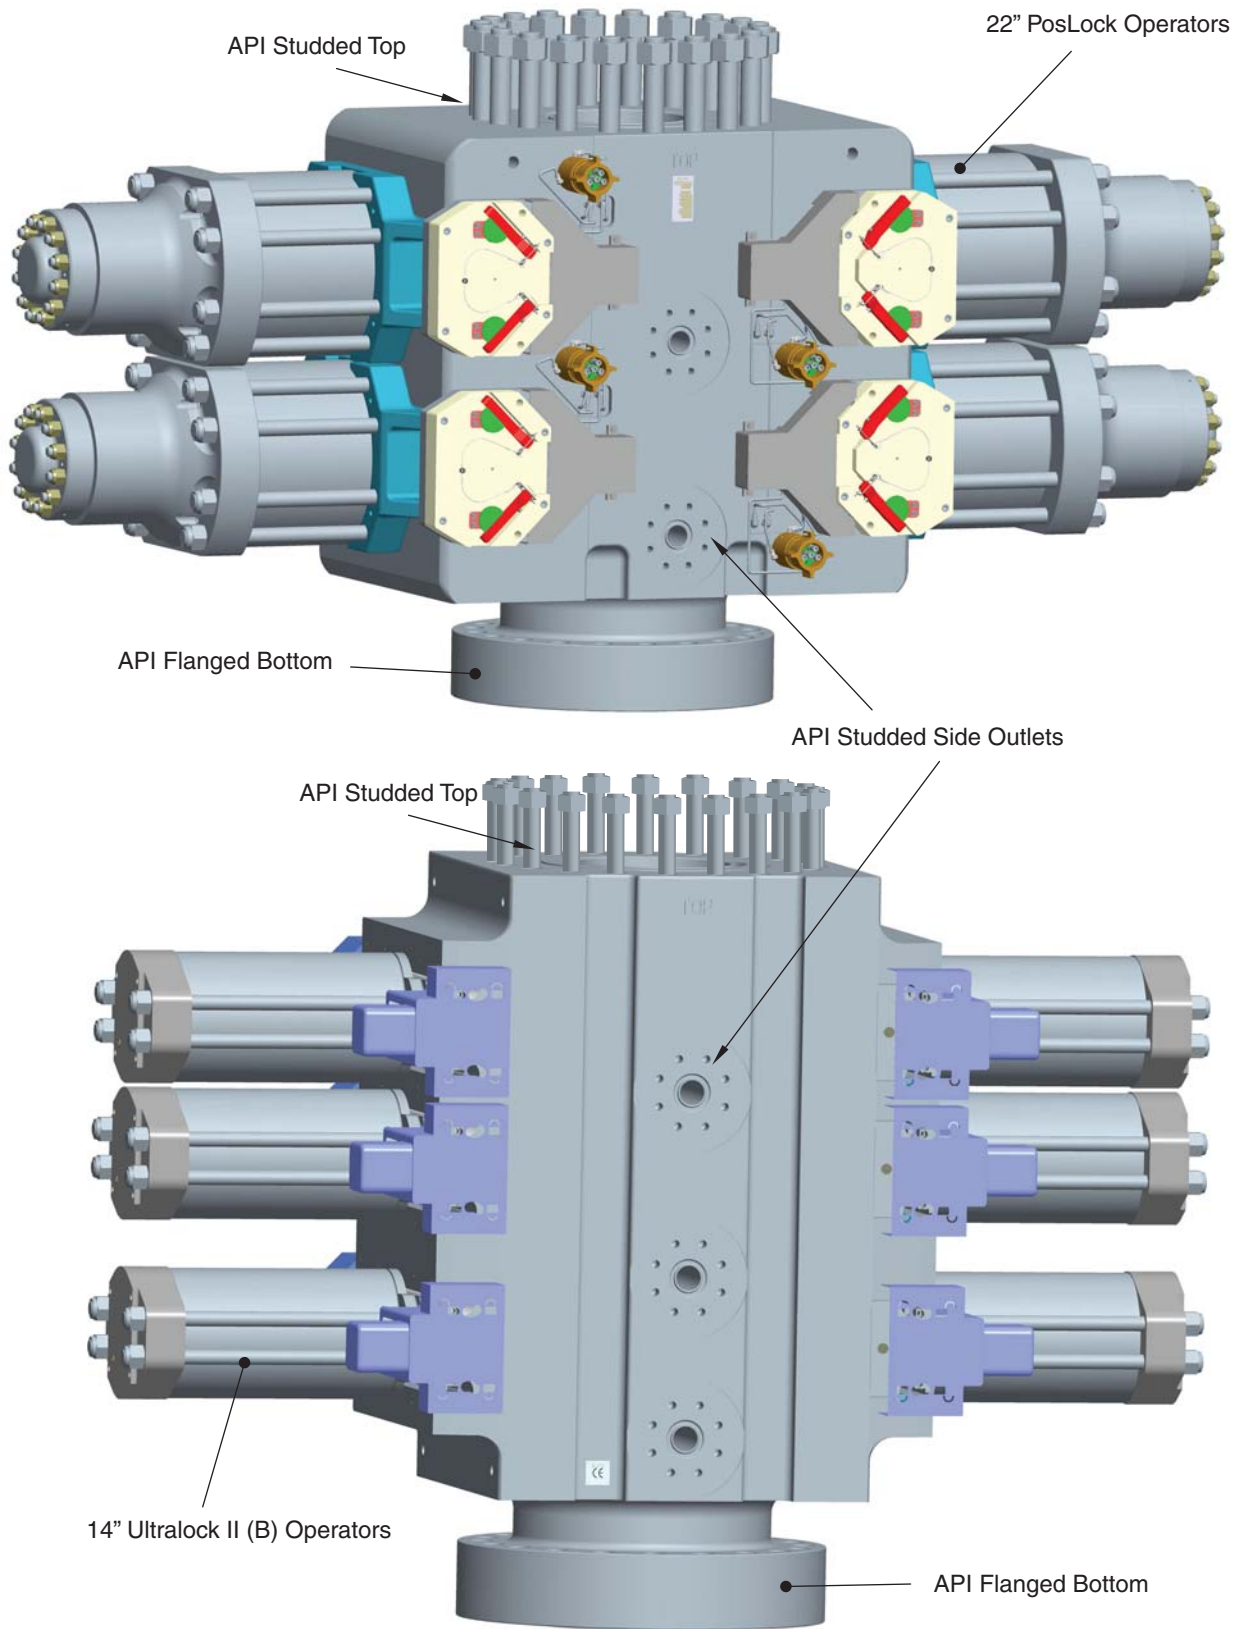

Figure 2-1. 18^{3/4}-15M NXT Double with 22" PosLock Operators and 18^{3/4}-15M NXT Triple with 14" UltraLock II (B) Operators
See Figure 2-1 on page 2-2 for BOP general features. The NXT ram BOPs are functioned hydraulically by rig personnel using the BOP control system. Remote control of the BOPs is located on the Driller's and Toolpusher's control panels.
The 18 $\frac{3}{4}$ -15M NXT triple ram BOP is configured with an 18 $\frac{3}{4}$ "-15,000 psi API studded top and flanged bottom, with six 3 $\frac{1}{16}$ "-15,000 psi side outlets, and is equipped with doors utilizing pipe rams (various sizes), hydraulic ram operators with automatic locking, and XT™ door locking system (see Figure 2-1 on page 2-2).
The UltraLock II (B) operators are used to close the ram assemblies on drill pipe and close off the wellbore pressure. The 14" UltraLock II (B) operators require a hydraulic pressure of 1,500 psi (103 bar) to accomplish sealing the wellbore pressure to the rated working pressure of the preventers. The 14" UltraLock II (B) operators are located on either side of the NXT body (see Figure 2-1 on page 2-2). When the rams are hydraulically closed, the
Two 22" PosLock operators are located on either side of the NXT triple body (see Figure 2-1 on page 2-2).